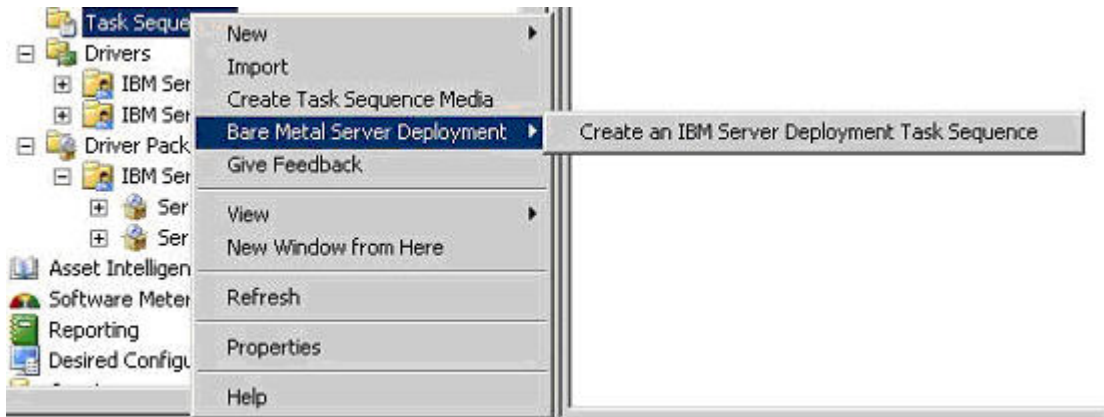
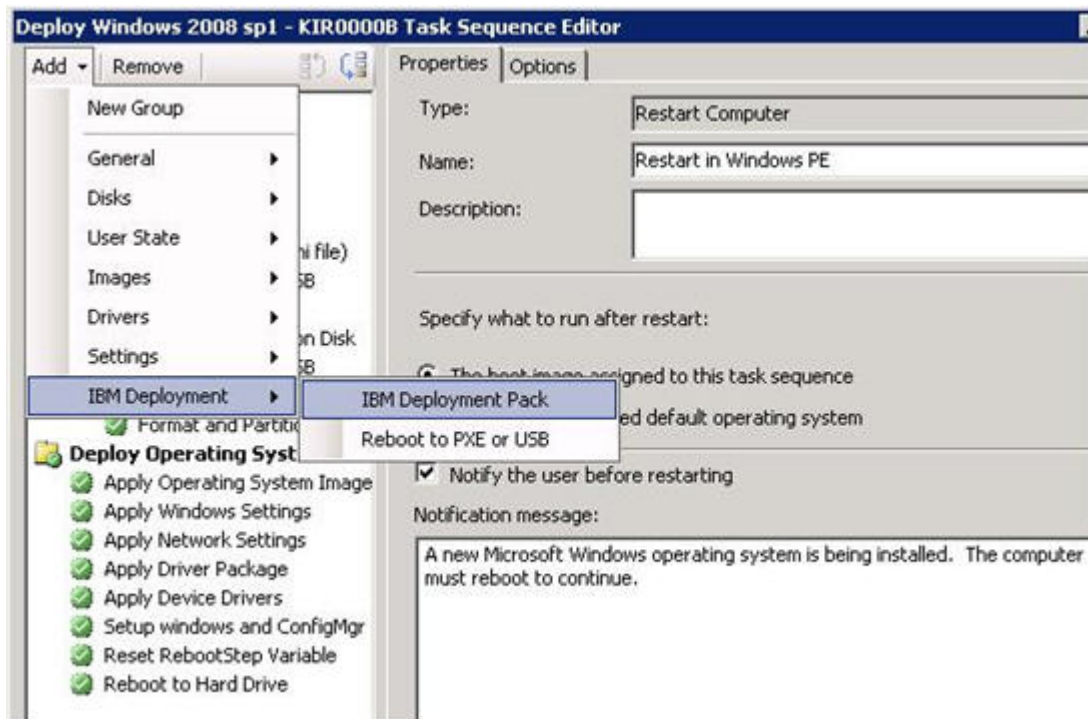

Figure 8. New Bare Metal Deployment option added
Figure 9. New action in Task Sequence Editor
11. Check to ensure that an IBM Task Sequence has been added to the Task Sequence's Bare Metal Server Deployment pull-down menu item. See Figure 8 on page 11 and Figure 9 on page 11.